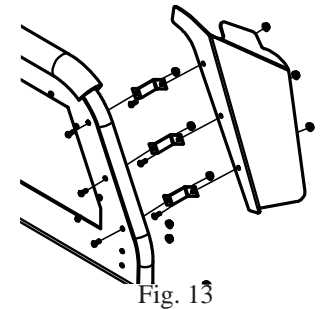

Fig. 13
- A. The Filler Wings and their mounting hardware are packed in separate box marked "Wing Kit". Install the filler wings according to their included instructions. (See Fig. 13)